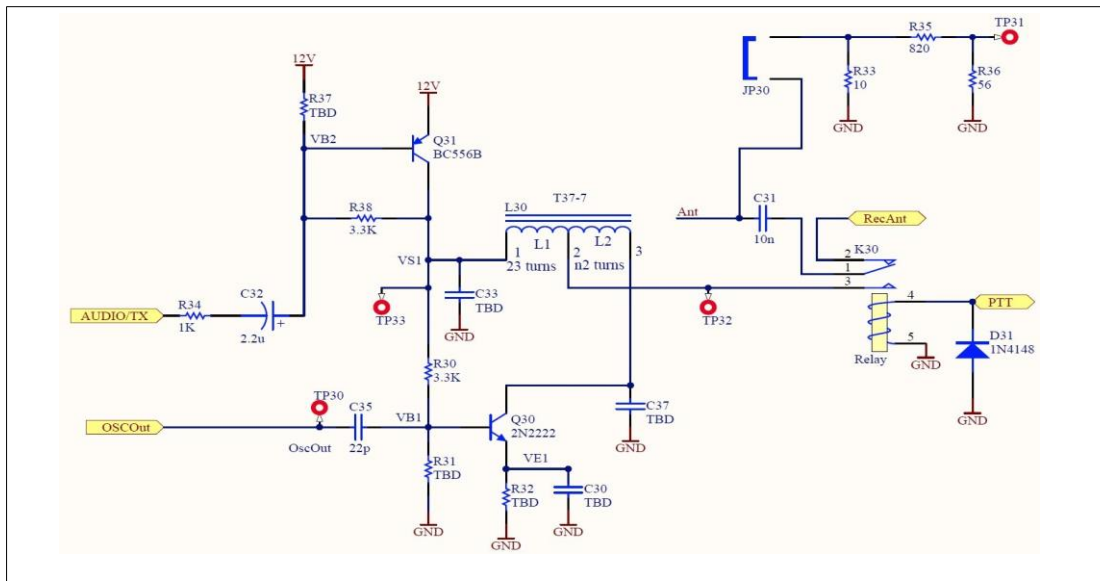

Figure 7: Schematic of the Amplitude modulator of TRC-11.
1. Most of the amplitude modulator is already built as given in Fig. 7. It uses a PNP transistor (Q31) to modulate the supply voltage of the transmitter amplifier (Q30). The only missing